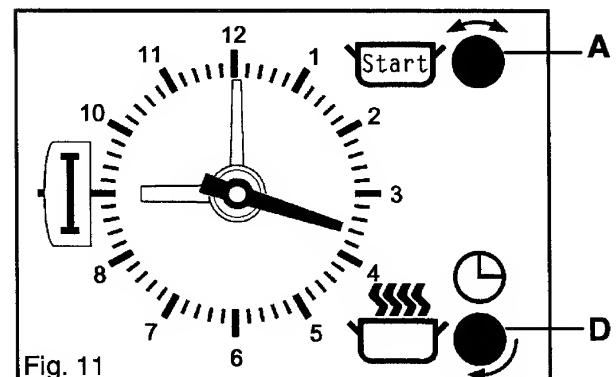

Fig. 11
Turn the oven temperature control OFF. Ensure the start time indicator (E) lines up with the hour hand of the clock by **pushing in** and turning in either direction, setting knob (A). Fig. 11.